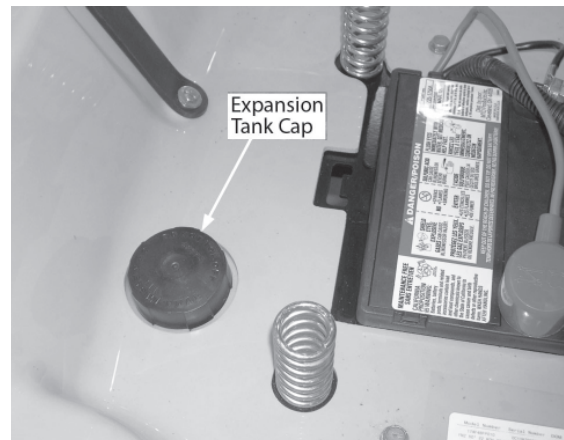

Figure 6-2
- Pivot the operator's seat forward and clean the tank cap and the area around the cap to prevent debris from contaminating the transmission oil. See Figure 6-2.